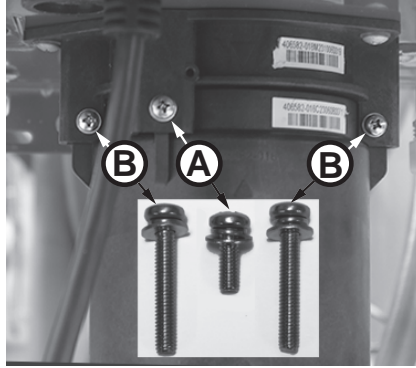

Figure 201 - Identify cartridge screws
5 Locate the three (3) screws securing the X3®/Bypass cartridge as shown in Figure 201. Remove the **(A)** M4-12mm screw and the two **(B)** M4-25mm screws from cartridge. Place screws aside in a safe place for reinstallation.